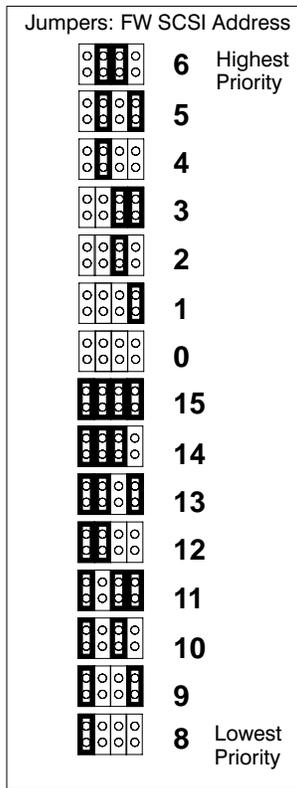
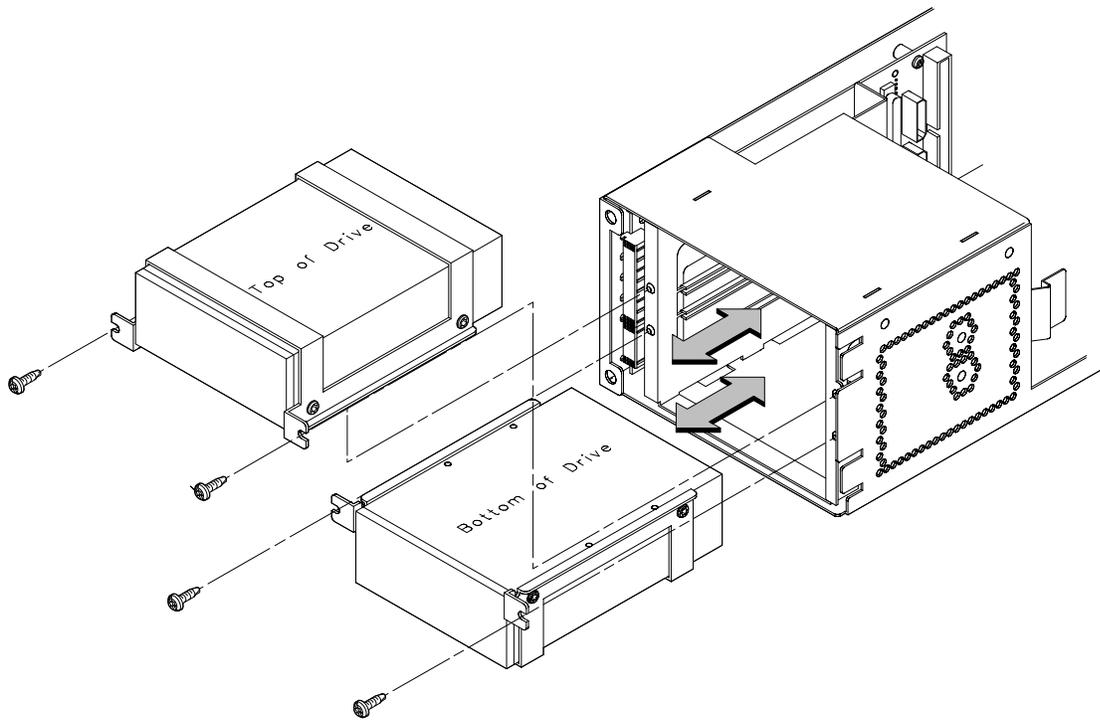

Figure B-16. Fast, Wide Hard Drive Jumper Settings
Figure B-19. Placing Hard Drives in Storage Drawer
Check the jumpers on the hard drive you plan to install. Figure B-16 shows the correct SCSI address for the jumpers on your drive. These jumpers are the only jumpers you may need to change on the drive.
6. With the disk mounting bracket between the guides on each side of the Storage Assembly, slide the disk into the Storage Assembly, securing it to the drawer with two side screws. See Figure B-19. Do not over-tighten the side screws.
The drives should be placed in the drive bays with the bottom of each drive toward the middle, as shown in Figure B-19. Refer to Figure B-16 for drive orientation in the bracket.